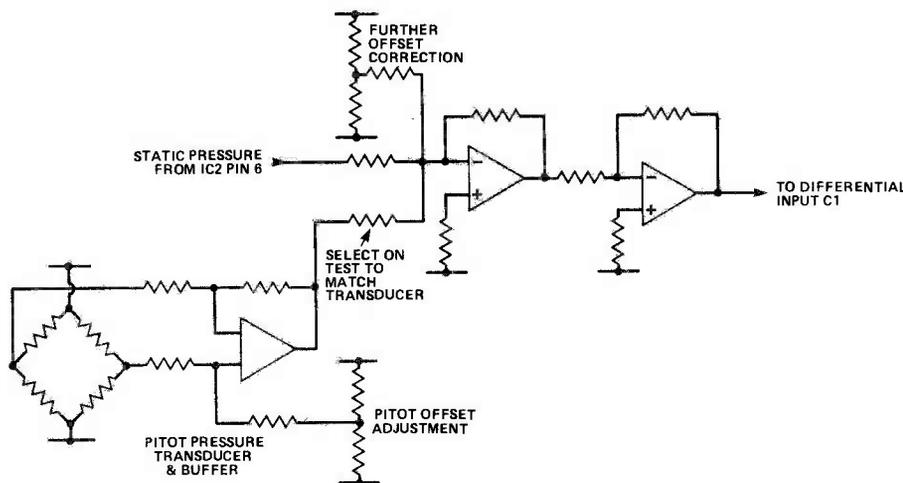

Fig. 1 Suggested modification to the original vario circuit to give total energy compensation.
What is required, therefore, is to modify the input to the differentiator by subtracting the right amount of pitot pressure in accordance with expression (3). One possibility is to place a summing amplifier between the static pressure transducer buffer and the differentiator, as shown in Fig. 1.